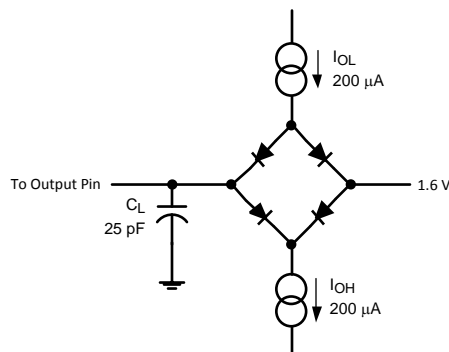

Figure 3. Timing Test Circuit
- (1) Measured with the timing test circuit shown in Figure 3 and defined as the time taken by the output signal to cross 1.0V.
- (2) Measured with the timing test circuit shown in Figure 3 and defined as the time taken by the output signal to cross 1.0V or 2.0V.
- (3) t_{DIS} is derived from the time taken by the outputs to change by 0.5V with the timing test circuit shown in Figure 3. The measured number is then adjusted to remove the effects of charging or discharging the output capacitance. This means that t_{DIS} is the true bus relinquish time, independent of the bus loading.